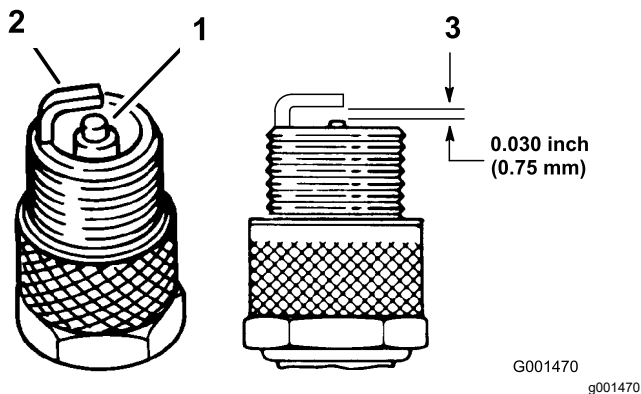

Figure 41
4. Check the condition of the side electrode, center electrode, and center electrode insulator to ensure that there is no damage (Figure 41).
5. Set the air gap between the center and side of the electrodes at 0.76 mm (0.03 inch) (Figure 41).